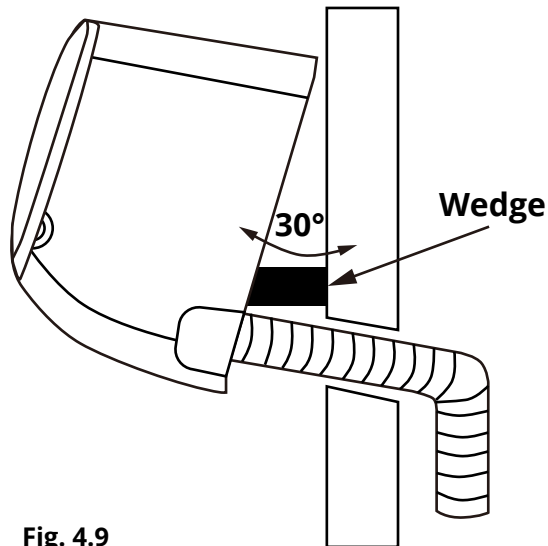

Fig. 4.9
2. Use a bracket or wedge to prop up the unit, giving you enough room to connect the refrigerant piping, signal cable, and drain hose. Refer to **Fig. 4.9** for an example.